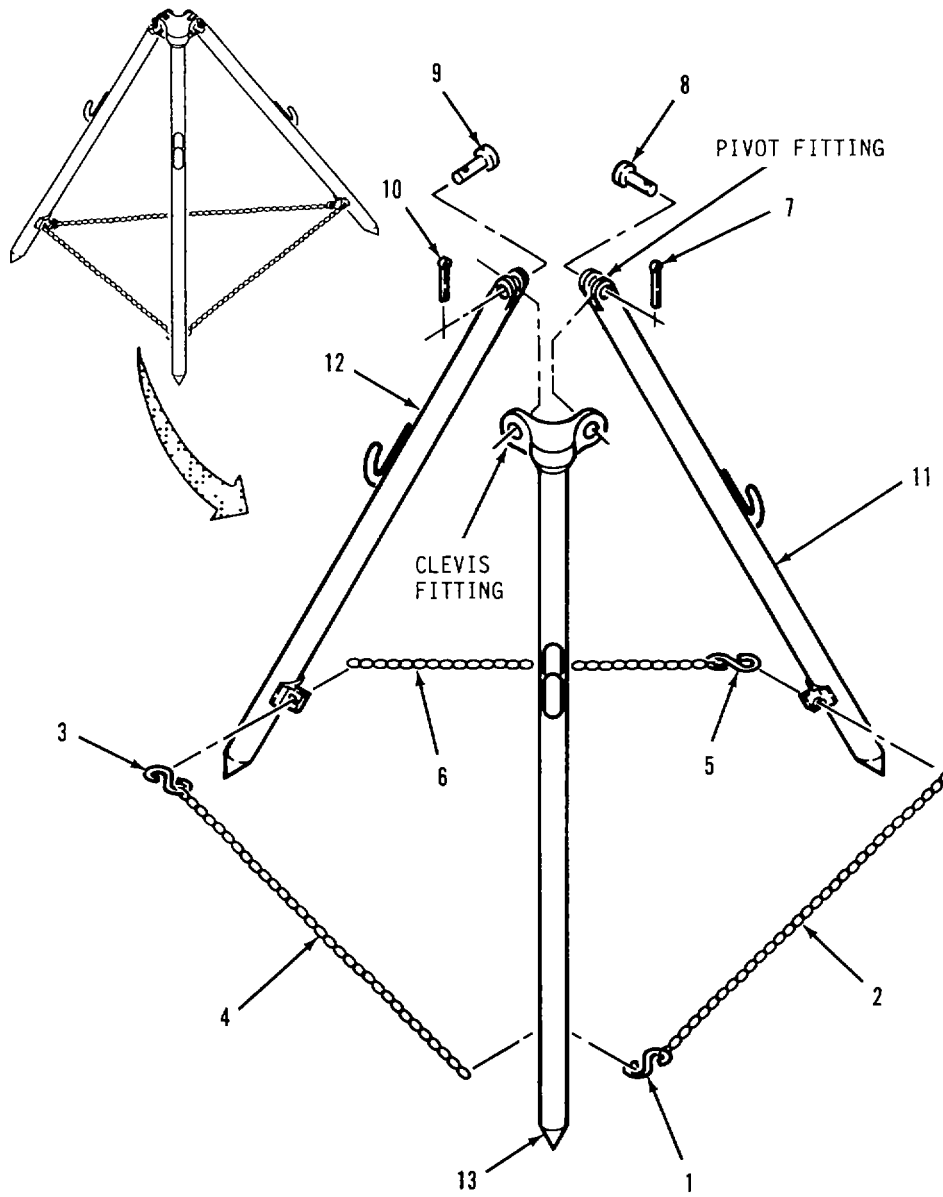

Figure 4-10. Nozzle Stand Repair.
- a. Disassembly. Refer to figure 4-10.
- (1) Unbend and remove S-hooks (1, 3 and 5) and disconnect chains (2, 4 and 6).
- (1) Inspect legs (11, 12 and 13) for cracks, broken clevis ends and bent or missing nozzle hangers.
- (2) Inspect chains (2, 4 and 6) for broken links.
e. Assembly. Refer to figure 4-10.
- (1) Position clevis fitting on leg (13) over pivot fitting on leg (12).
- (2) Install straight pin (9) through pivot fitting and clevis. Install cotter pin (10) in straight pin.
- (3) Align clevis fitting on leg (13) with pivot fitting on leg (11).
- (4) Install straight pin (8). Install cotter pin (7) in straight pin.
- (5) Connect chains (2, 4, and 6) to legs (11, 12, and 13) with S-hooks (1, 3 and 5).
- (6) Position nozzle stand in water system.